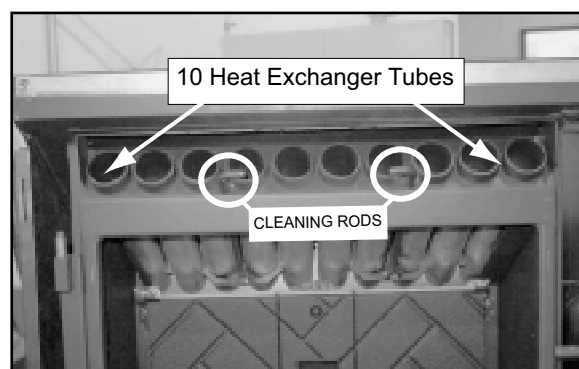

Figure 30.1
- Pull firepot cleaning rod OUT a couple of times to help shake debris loose. **See Figure 30.1 on page 30.** If rod is hard to pull, it may be necessary to use your firepot clean-out tool to chip away material that has built up on the bottom plate of the firepot and to push out any clinkers. Larger clinkers may have to be removed from the top of the firepot. Corn clinkers can be especially difficult to break up.